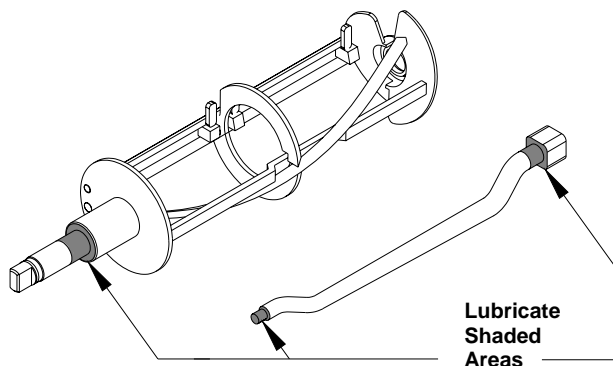
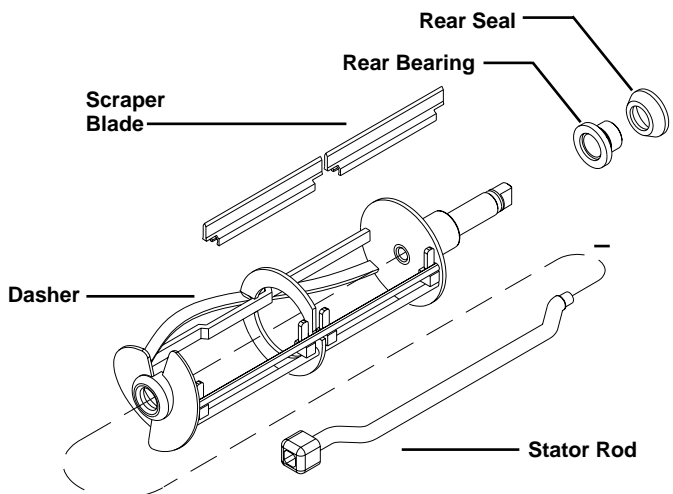

Fig. 24
Fig. 25
- a. Apply a generous amount of lubricant to the shoulder of the dasher and the area of the shaft where the white plastic portion of the assembled rear seal contacts the shaft (Fig. 24). This is easily performed by running a 1/4" (6 mm) bead of lubricant around the shoulder of the dasher.
- b. Lubricate the two areas of the stator rod (Fig. 24) and slide the stator rod into the dasher (Fig. 25). Make certain that the end of the stator rod is inserted into the hole at the rear of the dasher.
- c. Assemble and install the rear seal with the rubber portion toward the rear of the freezing cylinder as indicated in Fig. 25.